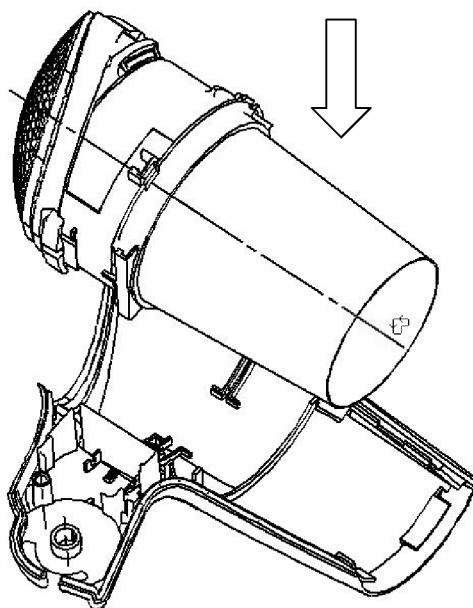

Figure 14
3. Assemble a Motor heater block with a Housing B as figure 14.